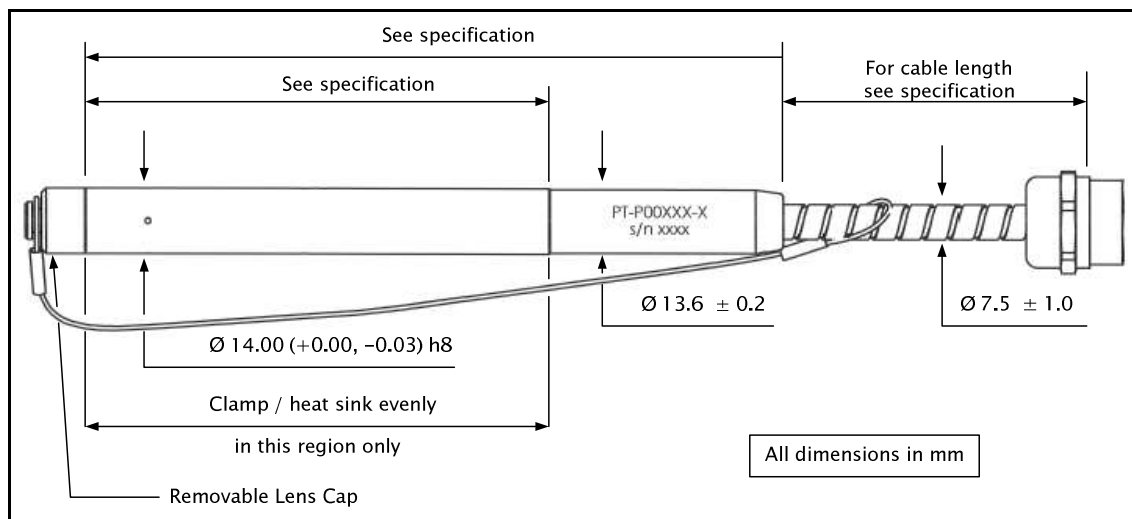

Figure 7.3: Outline Drawing: QCS Beam Delivery System
(1) Refer to table 4.1.1 for fibre type definitions
(2) Measured with respect to the reference surface Ø14mm defined in figure 7.3